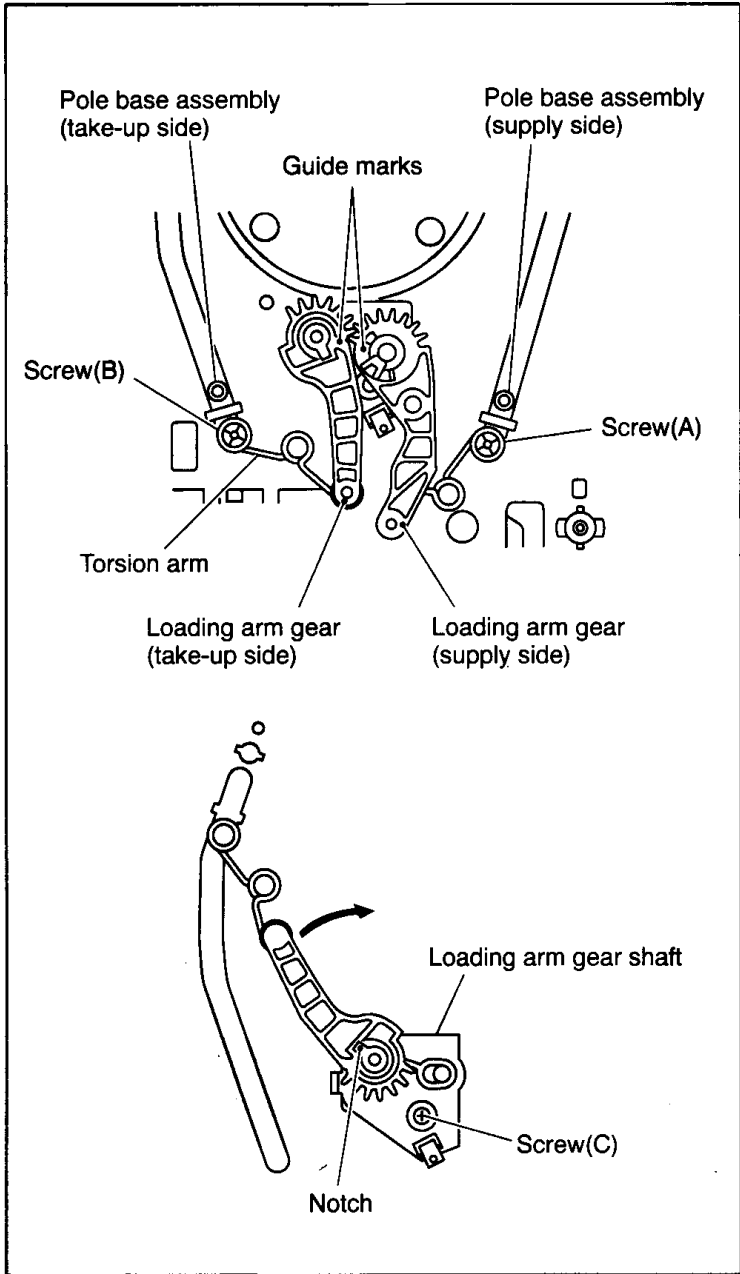
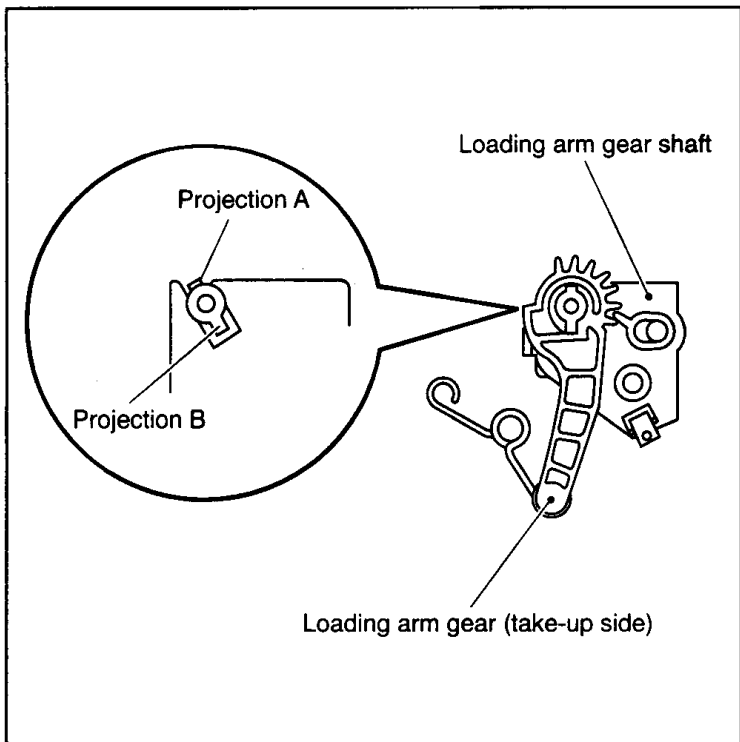

Fig. 2-2-32
Fig. 2-2-33
- (1) Remove the loading arm gear (supply side) by loosening the screw (A). (See Fig. 2-2-32.)
- (2) Remove the screw (B) and remove the torsion arm from the pole base assembly (take-up side). (See Fig.2-2-32.)
- (3) Turn the loading arm gear (take-up side) clockwise so that the notch of the loading arm gear (take-up side) is in alignment with the projection of the loading arm gear shaft and lift it. Likewise, turn the loading arm counterclockwise so that the notch is in alignment with the projection and remove the loading arm gear (take-up side). (See Fig.2-2-32 and Fig. 2-2-33.)
- (4) When removing the loading arm gear shaft, be sure of first removing the screw retaining the drum assembly (on the back side of the loading arm gear shaft). Then remove the screw (C) and remove the loading arm gear shaft by sliding it.
- (1) Align the notch of the loading arm gear (take-up side) to the projection B of the loading arm gear shaft and slip it over. Then rotate it clockwise for alignment with the projection A and slip it down to the bottom. (See Fig.2-2-33.)
- (2) Then turn the loading arm gear (take-up side) counterclockwise. Hang the torsion arm on the pole base assembly (take-up side) and tighten the screw (B).
- (3) Install the loading arm gear (supply side) so that the guide mark of the loading arm gear (take-up side) is in alignment with the guide mark of the loading arm gear (supply side). Then hang the torsion arm on the pole base assembly (supply side) and tighten the screw (A). (See Fig.2-2-32.)